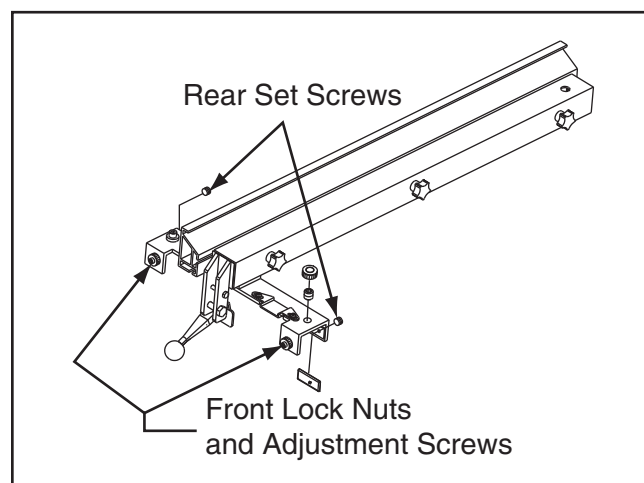

Figure 115. Location of screws used to adjust fence parallelism and clamping pressure.
3. Unscrew front lock nuts and adjustment screws shown in **Figure 115** until they are barely threaded into fence flange.
4. Back out rear set screws until they are just threaded into fence flange (see **Figure 115**).
3. Turn each rear set screw (see **Figure 115** on **Page 74**) in $\frac{1}{6}$ th of a turn.
8. Loosen both front lock nuts (see **Figure 115** on **Page 74**). Tighten adjustment screws so they just touch fence tube, back off screws $\frac{1}{2}$ turn, then tighten lock nuts.